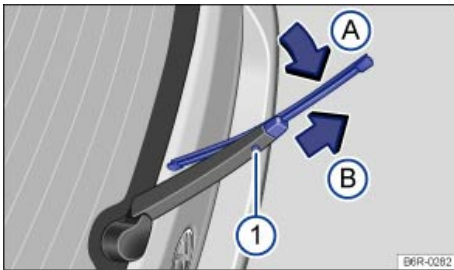

Fig. 163 Changing the rear window wiper blades.
- Press and hold the release button ⇒ fig. 163 \(1\).
- While lifting the wiper blade in the direction of the wiper arm (arrow (A)), pull off the wiper blade in the direction of the arrow (B). This may require moderate force.
- Install a new wiper blade of the **same length and type** onto the wiper arm by pushing in the opposite direction of the arrow (B) until it latches.